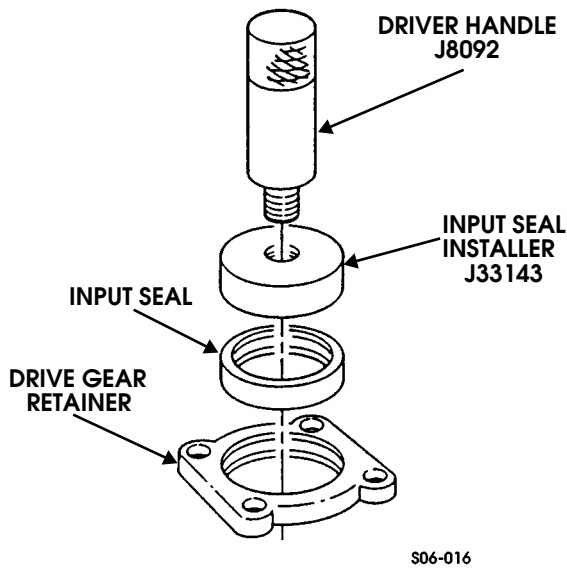

Figure 9-19: Input Seal Installation
6. Secure drive gear retainer in vise with inserts and remove input seal. Discard input seal (Figure 9-19).
1. Using driver handle J8092 and input seal installer J33143, install input seal in drive gear retainer. Ensure radius on outer diameter of input seal faces toward inside of geared hub (Figure 9-19).
4. Coat lip of input seal with gear oil (Figure 9-19).